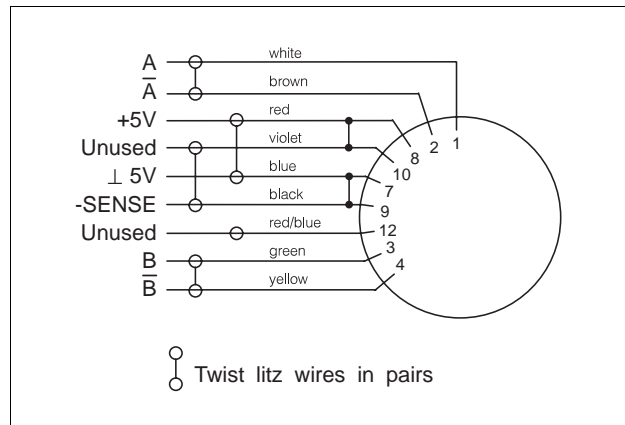

Fig. 2-8 Shaft encoder connection – motor side
8. Fasten the connector on the front panel (item 05) with screws.
9. The litz wires of the shaft encoder cable must be twisted in pairs in accordance with fig. 2-8. Litz wires 7-9 and 8-10 must be connected on the motor side.